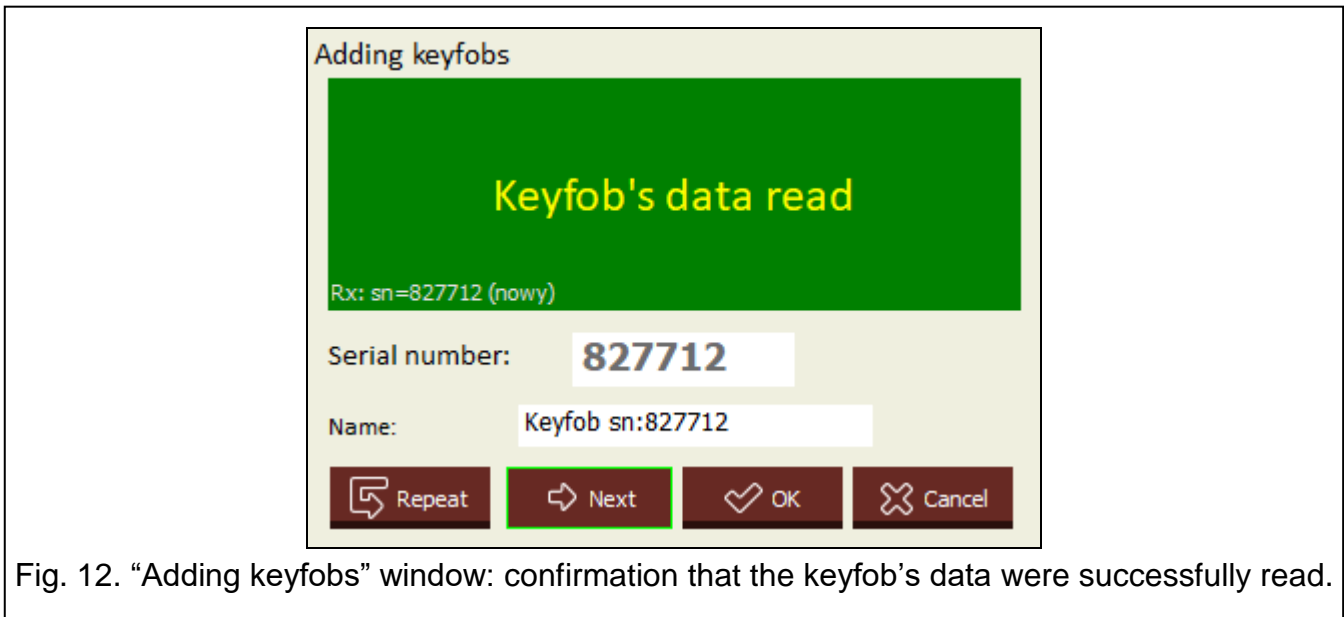

Fig. 12. "Adding keyfobs" window: confirmation that the keyfob's data were successfully read.
3. Press a button on the keyfob again. The program will inform you that the keyfob data were successfully read (fig. 12). The suggested keyfob name will be displayed in the "Name" field. You can change the name.